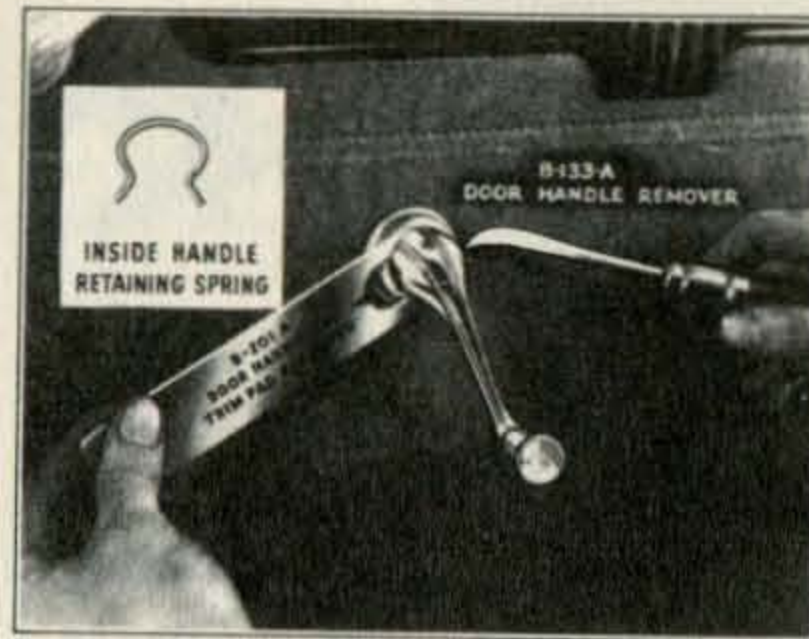

Fig. 21. Door Inside Handle Removal
- Insert tool B-201-A between the handle and escutcheon plate. (See Fig. 21.) Tool B-201-A now incorporates a "vee" notch at open end. Notch section is used to pull edge of door trim panels loose from inner panels.